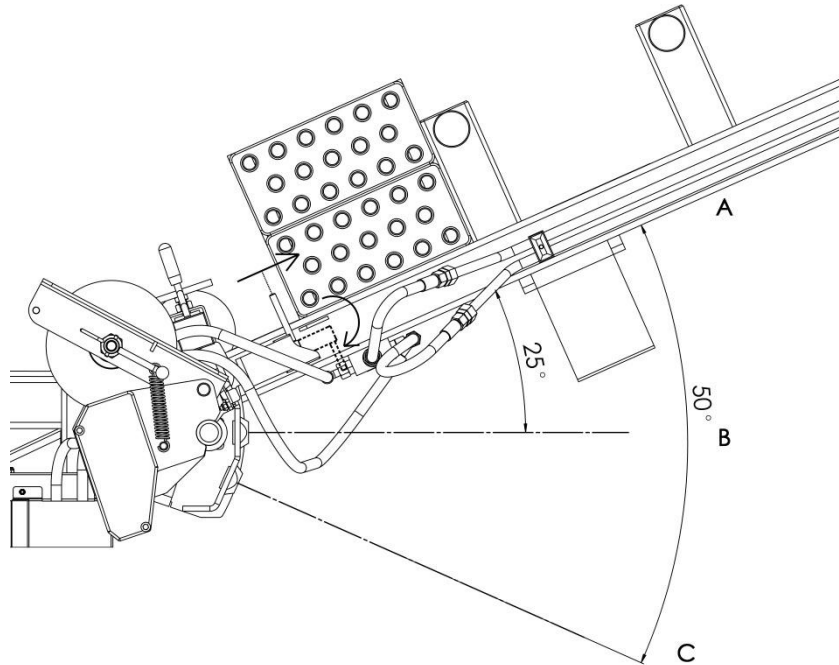

Fig. 15. Towbar position change
The wrapper's towbar may be positioned in one of the three levels (Fig. 15):
- Pull the drawbar's locking pin (Fig. 15),